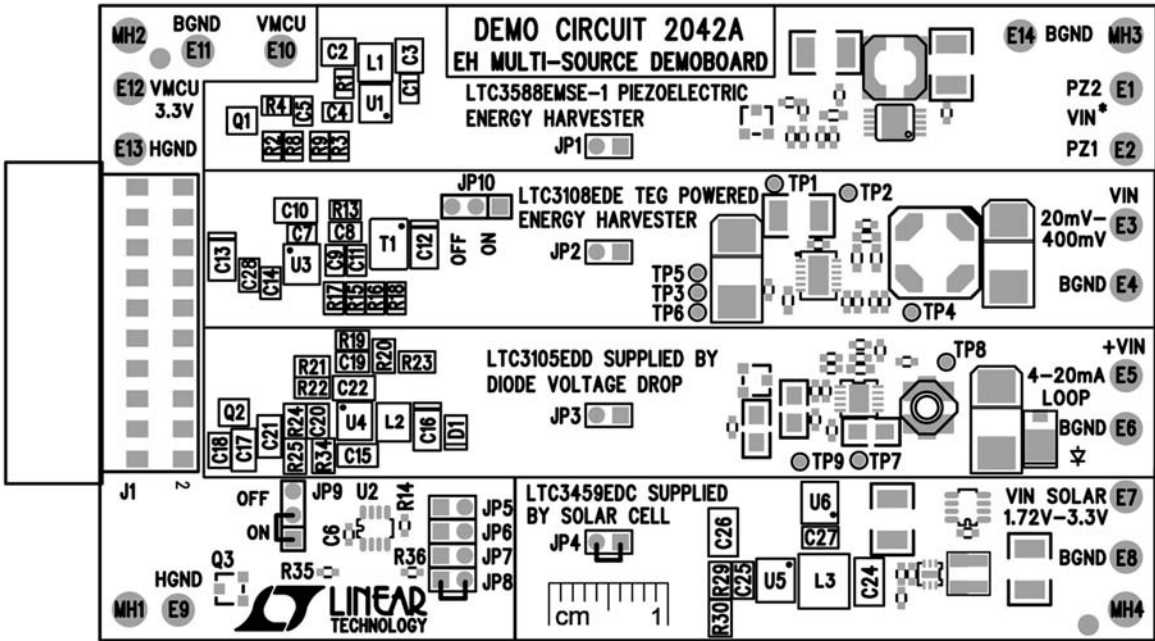

Figure 7a. DC2042A Top Assembly Drawing
23. Reset the Jumpers as shown on Figure 7a.